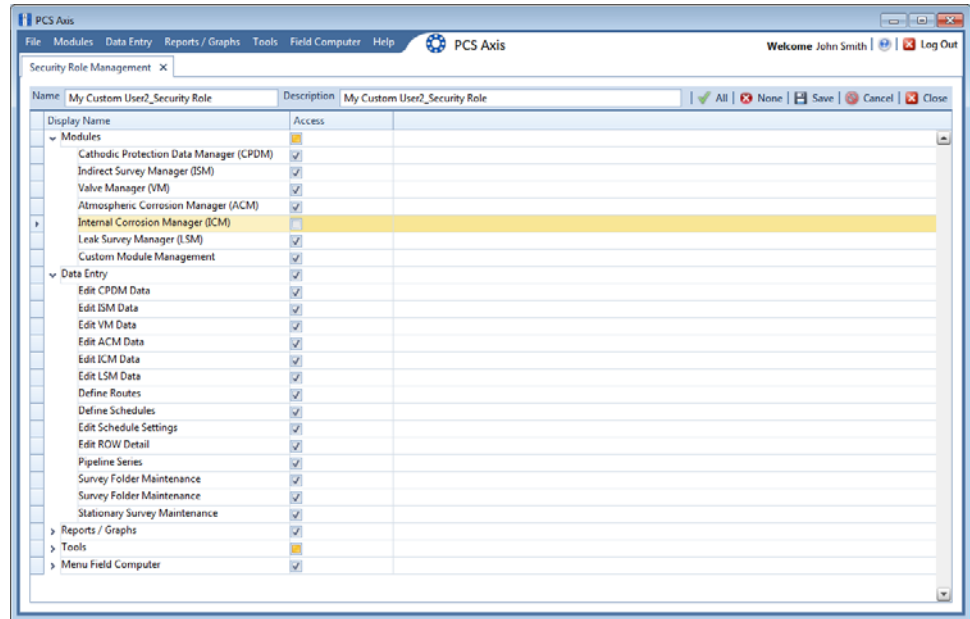

Figure 3-19. Security Role Management
- 2 Click the down arrow in the **Role** field and select a custom security role in the selection list. Then click  **Edit** to begin editing permissions (Figure 3-19, page 60).